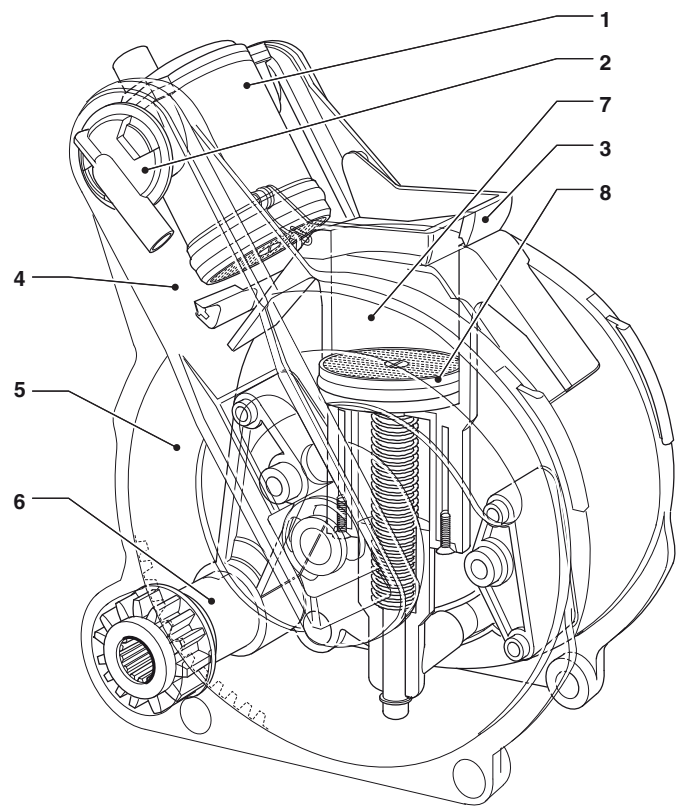

Fig. 22
The gear motor engaged on the pinion (6) lets the cranks (5) rotate, which cause the infusion chamber (1) to rotate by 30° (Fig. 22, Item 7).
The upper piston (1) aligns itself with the infusion chamber (Fig. 22 -7) and descends inside it. The position where the piston stops for the infusion will depend on the quantity of ground coffee in the chamber.